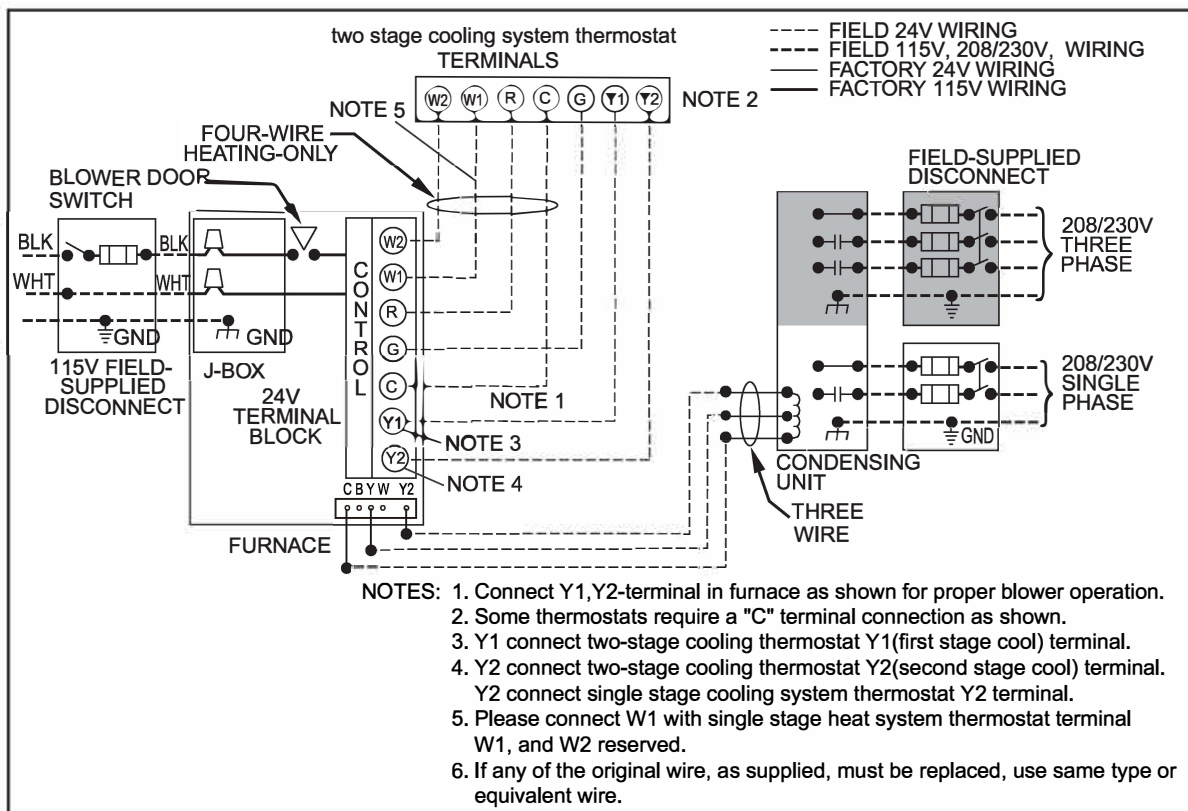

Fig.9-3 Heating and Cooling Application Wiring Diagram with 2-Stage Heating Thermostat
5. Connect line voltage leads as shown in Fig. 9-3.
12. Connect line voltage leads as shown in Fig. 9-3. Use best practices (NEC in U.S. and CSA C22.1 in Canada) for wire bushings, strain relief, etc.